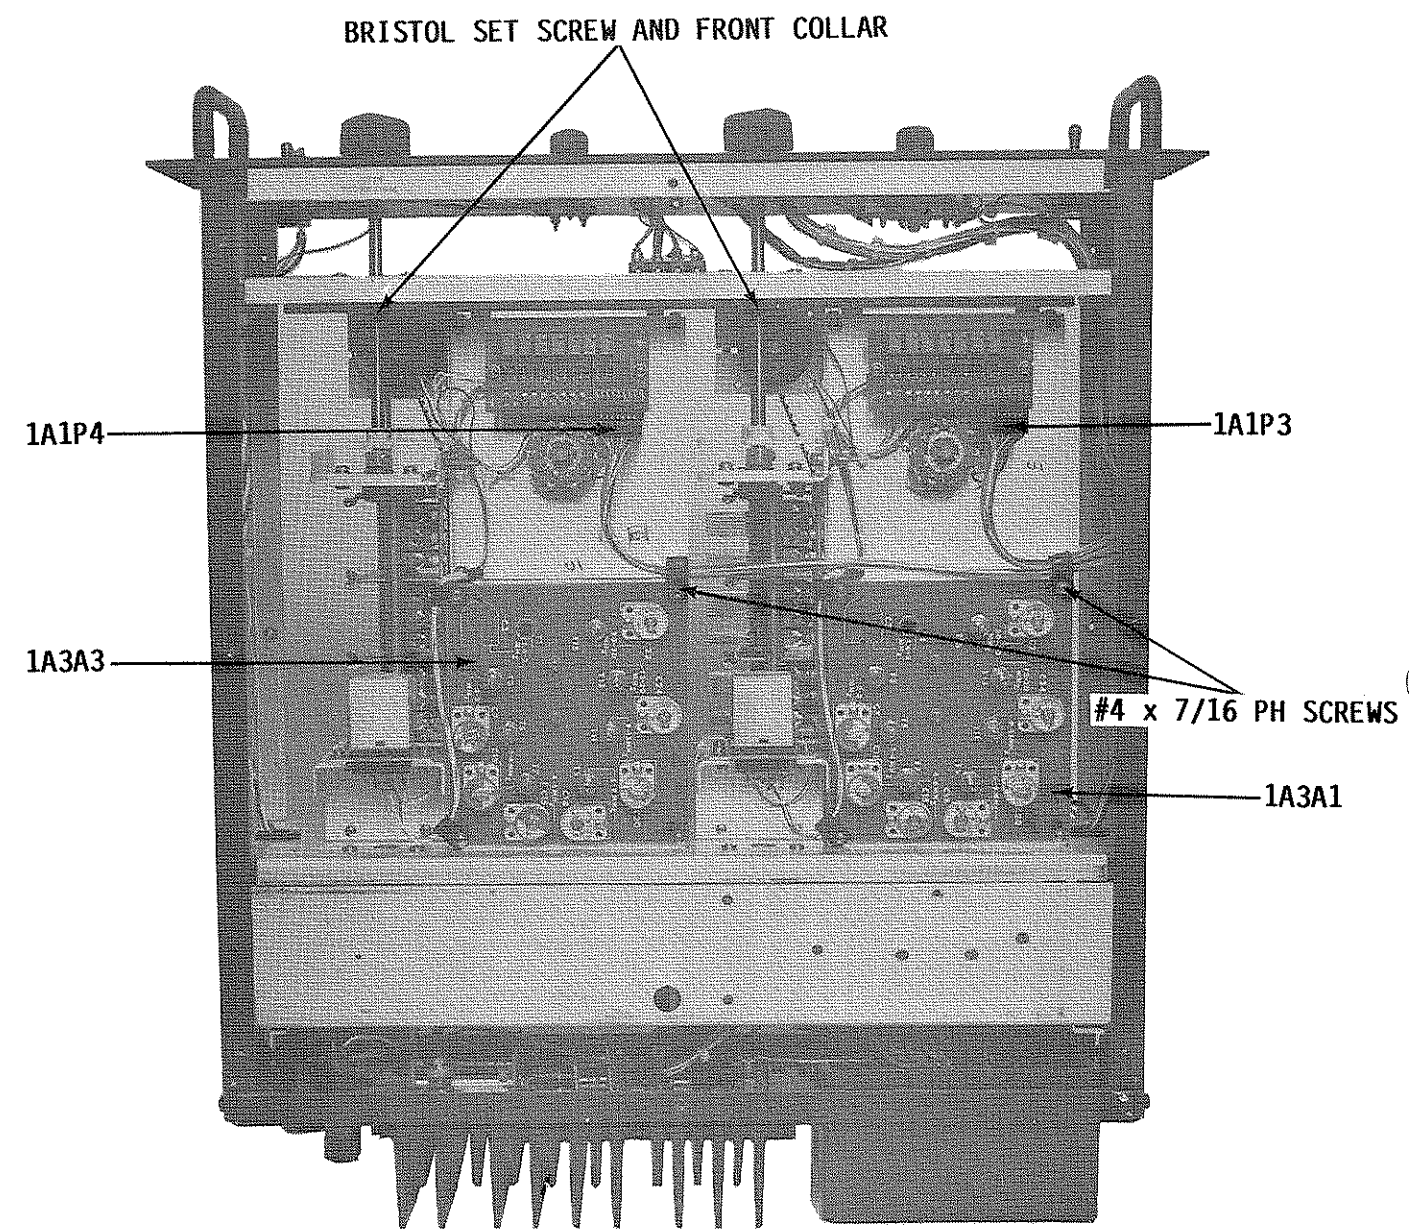

FIGURE 5.2 SHEET 2 of 19, BOTTOM COVER REMOVED
Connect GSR-921 and test equipment as shown in Figure 5.2.
- a) Connect equipment as shown in Figure 5.2.